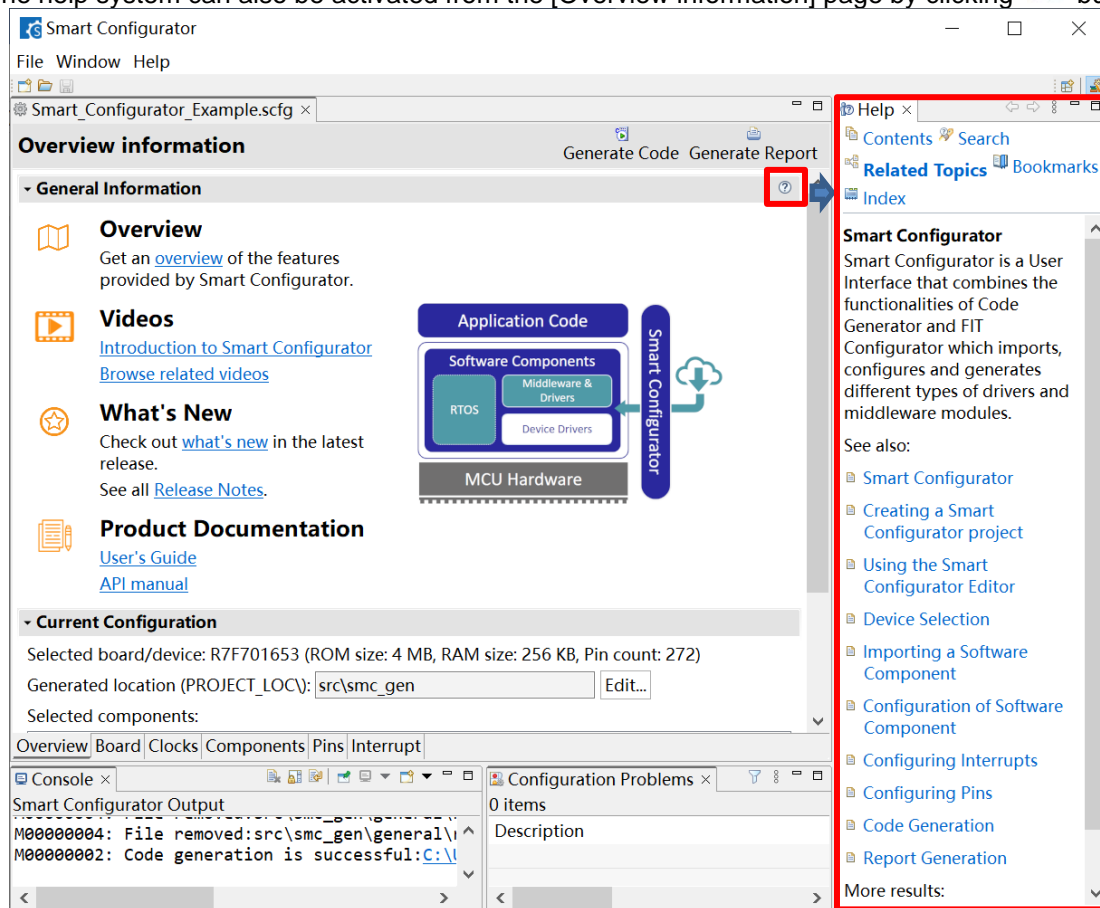

Figure 11-2 Smart Configurator Quick Start information
3.4 Window 9.1 Report on Configuration 11. Help	Update: Figure 3-3 Main Window Figure 3-4 Smart Configurator View Figure 9-1 Output of a Report on the Configuration Figure 11-2 Smart Configurator Quick Start information